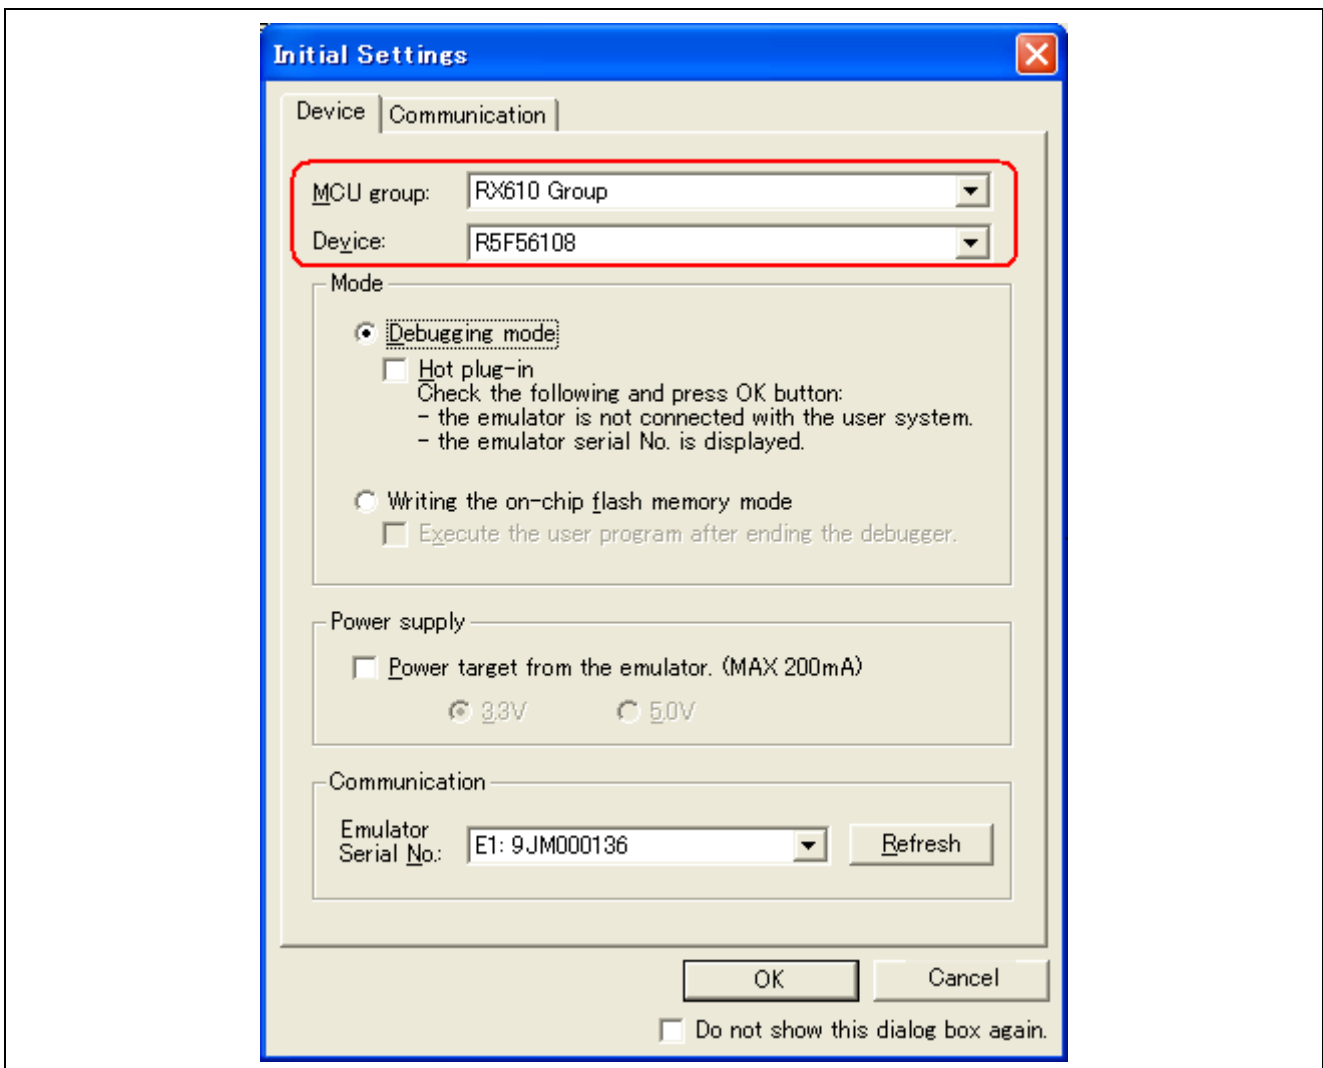

Figure 1.5 Selecting an MCU Group and Device
- This message indicates that the device selected in the [Initial Settings] dialog box does not match the actual device on the user system. Select the correct device name in the [Initial Settings] dialog box (Figure 1.5).